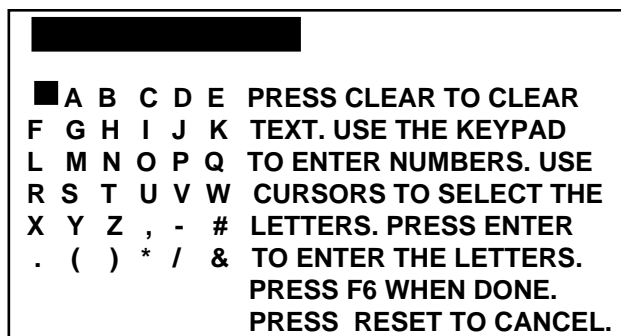

Figure 5-25. Overlay for entering memo box text
2. Enter text into the memo box, by pressing **F4** for the first line, and **F5** for the second line. A screen overlay (Figure 5-25 below) appears that enables you to enter fifteen characters of numbers and alphabetic text for each line. When you complete each line, press **F6** to accept it.